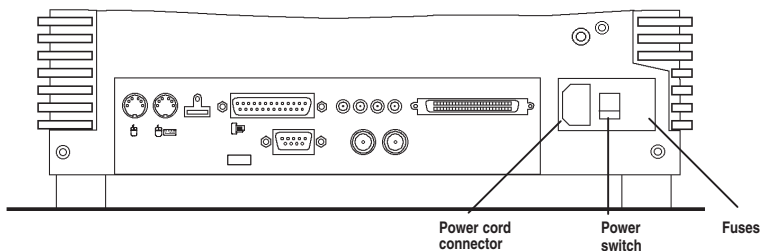

Figure 37: Line fuse, power cord connector, and power switch locations
2. Using the proper power cord, connect the rear panel power connector to a socket with protective ground (see Figure 37) .
3. Press the power switch to turn on the device. The power switch is located on the rear of the device (see Figure 37). The LED on the front panel of the power supply indicates that the device is powered up.
Before you switch off the K15, shut down the operating system, switch off the device using the power switch (see Figure 37), and disconnect the power cord.